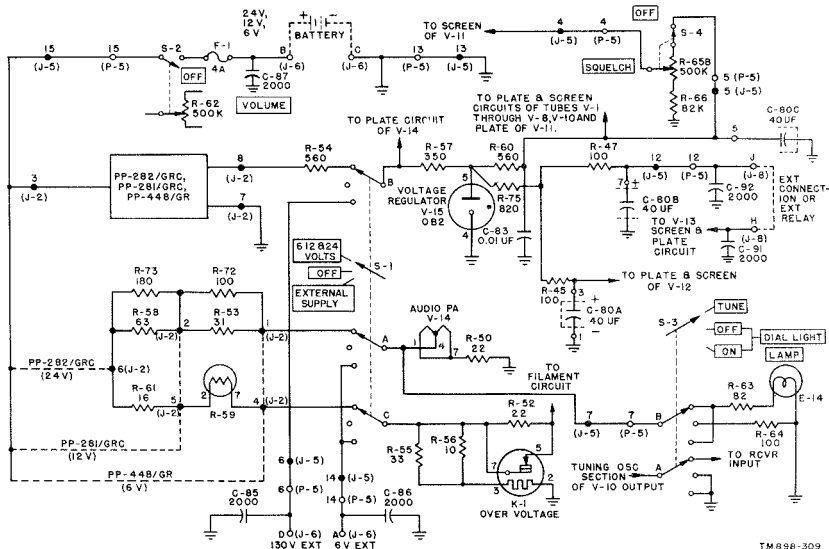

Figure 25. Power supply circuits.
d. Plate and screen voltages for V13 are obtained through terminals 11 of J5 and P5 which connect the plate and screen circuit of V13 to terminal H of connector J8. When an external connection is placed between terminals H and J of J8, plate and screen voltages are applied to V13. The plate and screen supply circuits for V13 continue from terminals 12 of P5 and J5, and through voltage-dropping and B+ filter resistors R47 and R75, to the junction of the plate (pin 5) of voltage regulator V15 and filter resistors R57 and R60 (fig. 25). By connecting the audio tube plate circuit to this point in the B+ supply, the remainder of the receiver circuits are effectively isolated from the effects of changes in B+ supply loading. Such changes in the B+ supply load occur when
a. The plate and screen supply circuit extends from pin 8 of J2, the output terminal of the vibrator power supply unit (fig. 25), and is routed through voltage-dropping resistor R54 and switch S1B over several paths to the plates and screens of tubes in the receiver. One path extends directly to the plates of audio output tube V14. Another path extends through voltage-dropping resistor R57 and ripple filter circuits R60 and C80C to several branch paths (fig. 23). Voltage regulator tube V15 (par. 25), connected between the junction of R57 and R60 to ground, serves to insure that a uniform voltage is applied to the plates and screens of tubes associated with these branch paths in spite of changes in load conditions or battery input voltages. Another path extends from the junction of R57 and pin 5 of V15 to the plates and screens of audio amplifier stages V12
(fig. 25)
- (3) The filament supply circuit is shunted by the series arrangement of resistors R55 and R56 in parallel and the coil (heater element) of thermal relay K1. The normally closed contacts 5-7 of the relay are connected across resistor R52, and the combination is in series with the filament supply circuit. This arrangement serves to protect the filament circuit against an overvoltage condition, which might occur when a filament in the series-parallel filament circuit of the receiver breaks down. As long as the voltage across the heater element does not exceed a certain predetermined value, the shorting contacts remain closed and the circuit arrangement is as described above. The values of R61, R55, and R56, and the value and placement of R59 are selected so that the required voltage is obtained across the relay heater. When the voltage to the receiver filaments (effectively at pin 7 of K1) exceeds 7.5 volts, the voltage across the heater element of K1 increases and causes the relay to operate. Contacts 5 and 7 in K1 open and places resistor R52 in series with the receiver filaments and filament supply circuit. The increased resistance in these circuits drops the filament voltage to a safe value, but maintains it high enough to allow circuit checking. The relay contacts remain open until power is removed from the receiver unit.
d. Dial Lamp Supply Circuit. Power for energizing the dial lamp is obtained for the filament supply circuit, as shown in figure 25. The filament supply circuit extends from pin 1 of J2 through S1, terminals 7 of J5 and P5, to section B of switch S3. When this switch is in either